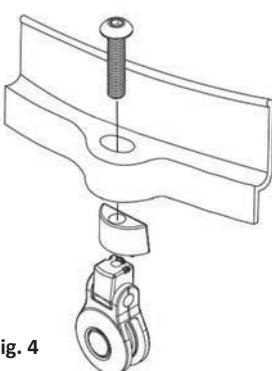

Fig. 4
1. Place cast hoop spacer (D1007) inside ear of cast hoop (**Fig. 4**);
2. Align pulley fixture (PF101) under cast hoop spacer (D1007) and allow the male tabs from the cast hoop spacer (D1007) to connect with the female indentations in the pulley fixture (PF101) (**Fig. 4**);
3. Hold pulley fixture (PF101) in place (**Fig. 4**);
4. Thread cast hoop bolt (D1007) through hoop hole, cast hoop spacer (D1007), and into pulley fixture (PF101) (**Fig. 4**). Tighten until snug, **Do not over-tighten**.